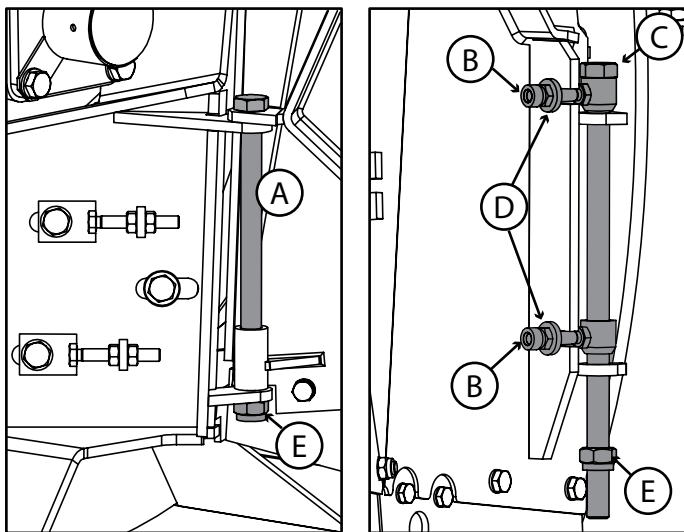

Fig. 5. Mounting the feeder on the chipper
2. Always use a grab loader to mount the feed unit and always lift the feed unit at the marked positions. Lift the feed unit up to the height of the hinged plates of the chipper. Insert the hexagon head bolt M20x320 (A). Swing in the feed unit. Insert the safety bolts (B) of the feed unit into the feed unit's holes and then insert the locking pin (C) through the safety bolts and the lugs of the chipper. Tighten the M12 nuts (D) of the safety bolts. Securely tighten the two M20 nuts (E). For dismounting, reverse the steps described above. See fig 5.